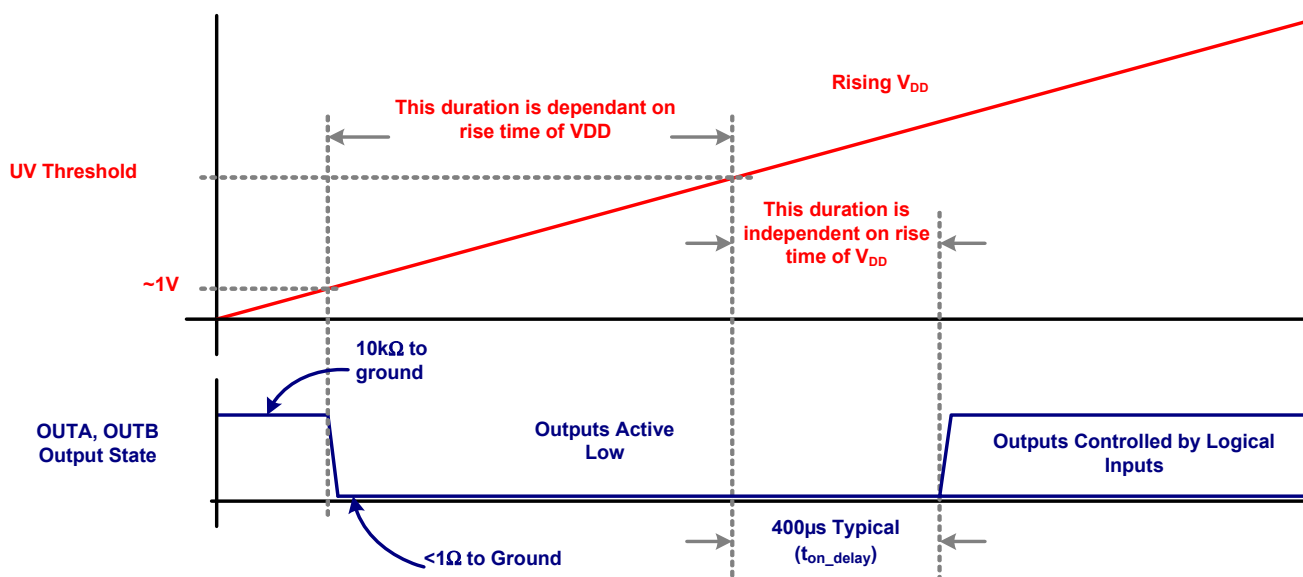

Figure 10. Start-Up Output Characteristic
| VDD Undervoltage Lockout (Options A and B) ( <a href="#">Note 12</a> , <a href="#">Figure 10</a> ) | V UV                      | ENA = ENB = TrueINA = INB = True                            |                        | 3.3   |     |                                   |                                   | V    |
| VDD Undervoltage Lockout (Option C) ( <a href="#">Note 12</a> , <a href="#">Figure 10</a> )        | V UV                      | ENA = ENB = TrueINA = INB = True ( <a href="#">Note 9</a> ) |                        | 6.5   |     |                                   |                                   | V    |
- A 400µs delay further inhibits the release of the output state when the UV positive going threshold is crossed. See Figure 10 on page 10.
| Turn-On Delay (Note 12, <a href="#">Figure 10</a> )                                                       | $t_{on\_delay}$ | see <a href="#">Figure 10</a>      |                     | 400 |     |                                              |           | µs   |
The start-up sequence for input threshold Options A, B, and C prevents unexpected glitches when  $V_{DD}$  is being turned on or turned off. When  $V_{DD} < \sim 1V$ , an internal  $10k\Omega$  resistor connected between the output and ground helps keep the gate voltage close to ground. When  $\sim 1V < V_{DD} < UV$ , both outputs are driven low while ignoring the logic inputs. This low state has the same current sinking capacity as during normal operation, and it ensures that the driven FETs are held off even if there is a switching voltage on the drains that can inject charge into the gates using the Miller capacitance. When  $V_{DD} > UVLO$ , and after a  $400\mu s$  delay, the outputs now respond to the logic inputs. See Figure 10 for complete details.
| 3.00 | Feb.22.12 | (page 5) ENA and ENB added to the Input Range parameter(page 6) Propagation delay testing parameters changed for option C(page 6) Note 13 added(page 7) Figure 3 modified to show different input thresholds for testing prop delays for option C(page 4) The startup sequence references for the VDD Undervoltage Lock-out parameters for Option C is now the same as Options A and B. Options A, B, and C now have the same startup sequence.(page 5) Note 9 is rewritten to be more precise.(page 8) The old startup sequence for Option C has been deleted (formerly Figure 10)(page 10) The old startup sequence description in the Functional Description Overview has been deleted.                                                                                                                                                                                                                                                                                                                                                                                                                                                                                                                                                                                                                                                                                                                                                                                                                                                                                                                                                                             |